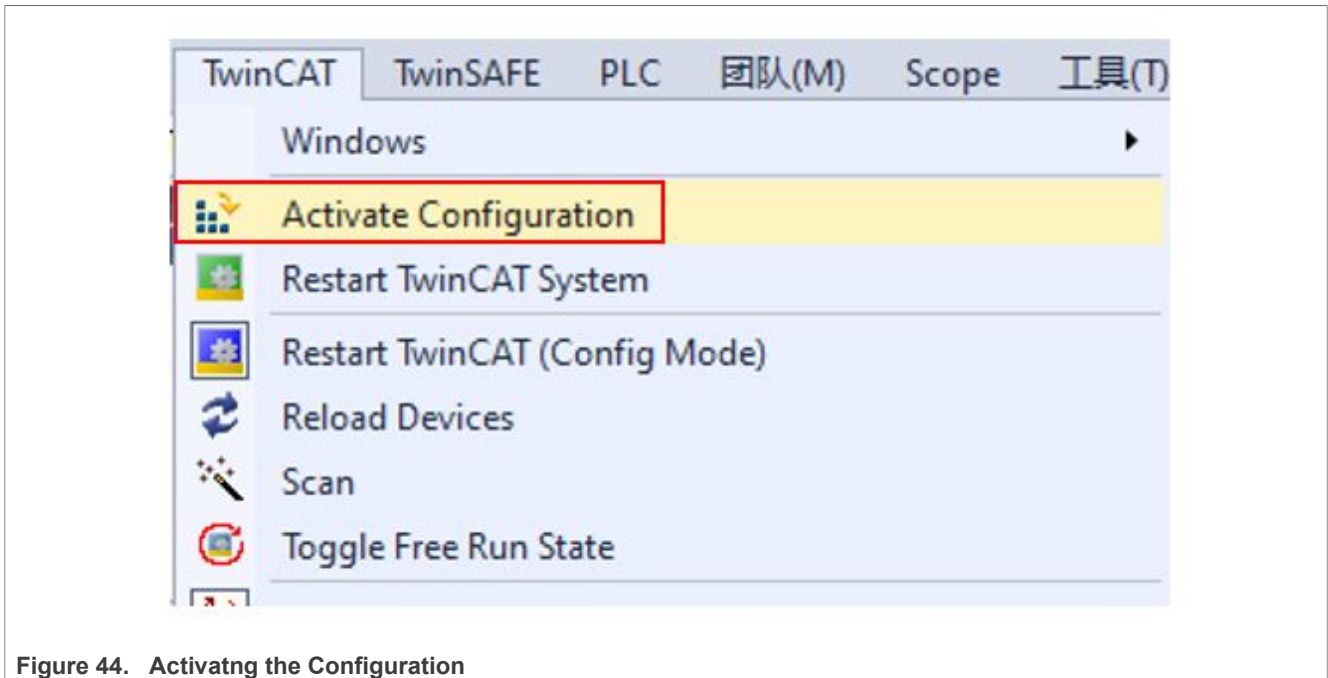

Figure 44. Activatng the Configuration
6. Then, click **Activate Configuration**, as shown in Figure 44.